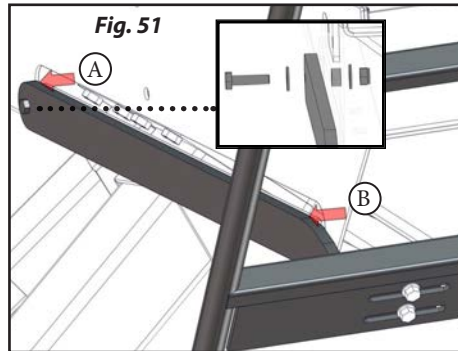

Fig. 51
- Bolt on the ladder extension with (2) M10 x 35 hex bolts then (2) washers and (2) spacers between the two ladders and (2) M10 Nylon nuts. Fig 51.